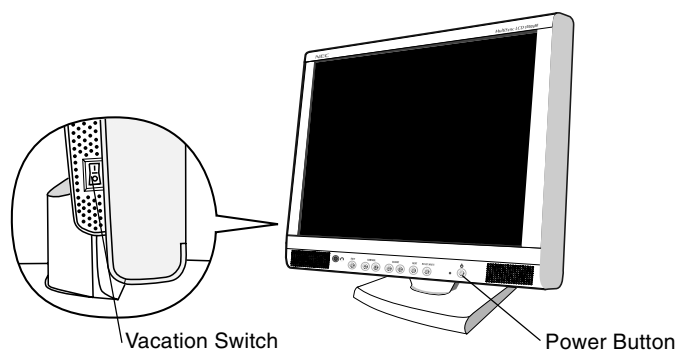

Figure F.1
7. The Vacation Switch on the left side of the monitor must be turned on (**Figure F.1**). Turn on the monitor with the Power Button and the computer.